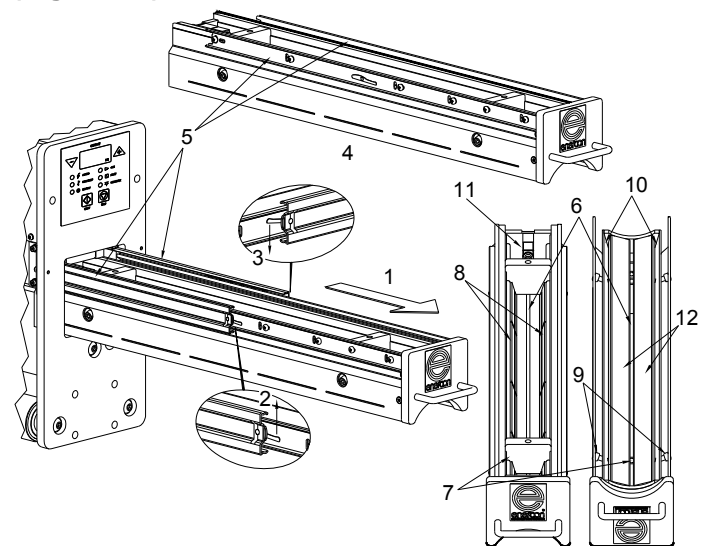

Figure 27
Continue pulling the module out until it comes free of the guides (4) and can be lifted out of the station (Figure 27).